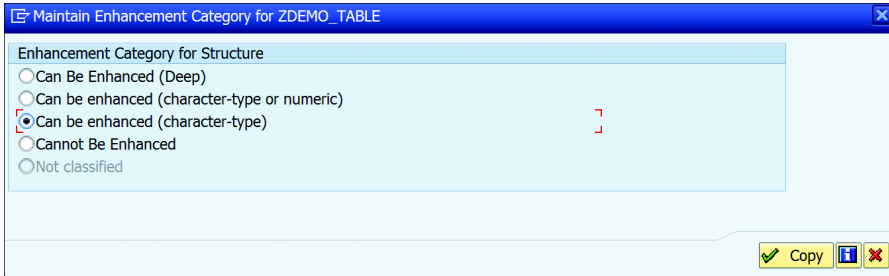

Figure 10.9 Maintain Enhancement Category
7. Once all the fields are maintained, you need to maintain the enhancement category for the table. If the enhancement category isn't maintained, the system will produce a warning message during activation. To maintain the enhancement category, follow the menu path EXTRAS • ENHANCEMENT CATEGORY to open the MAINTAIN ENHANCEMENT CATEGORY dialog box, as shown in Figure 10.9. The following options are available: